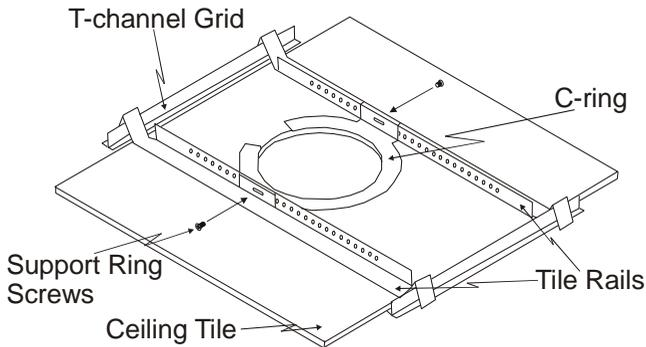

Figure 6: Installing the Open-back Ceiling Speakers
| Figure 6: | Installing the Open-back Ceiling Speakers | 10 |
1. Place the C-ring over the hole cut in the ceiling tile (on the “ceiling” side). Place it around the hole so that the tabs are located in parallel to the tile edges (see Figure 6).